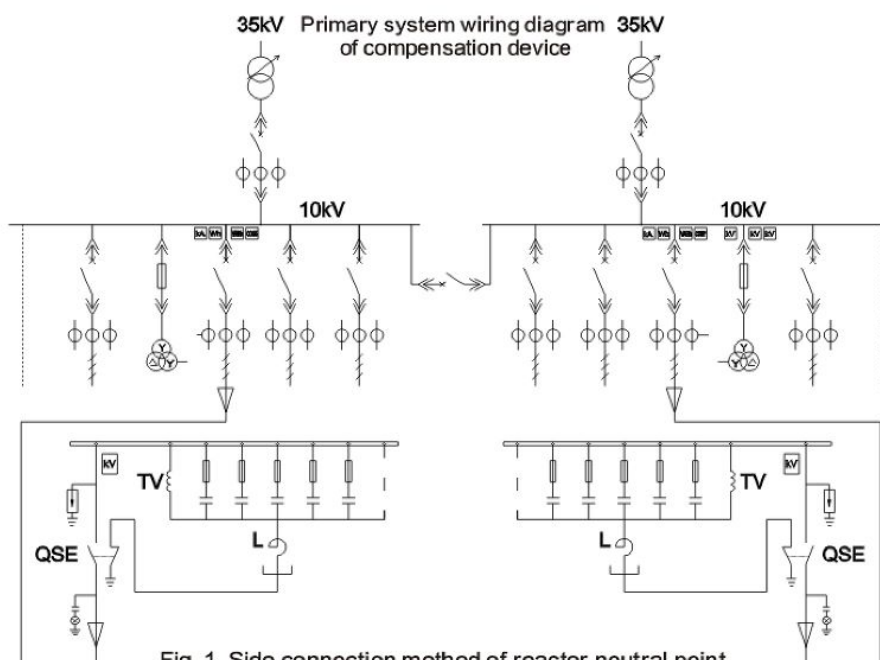
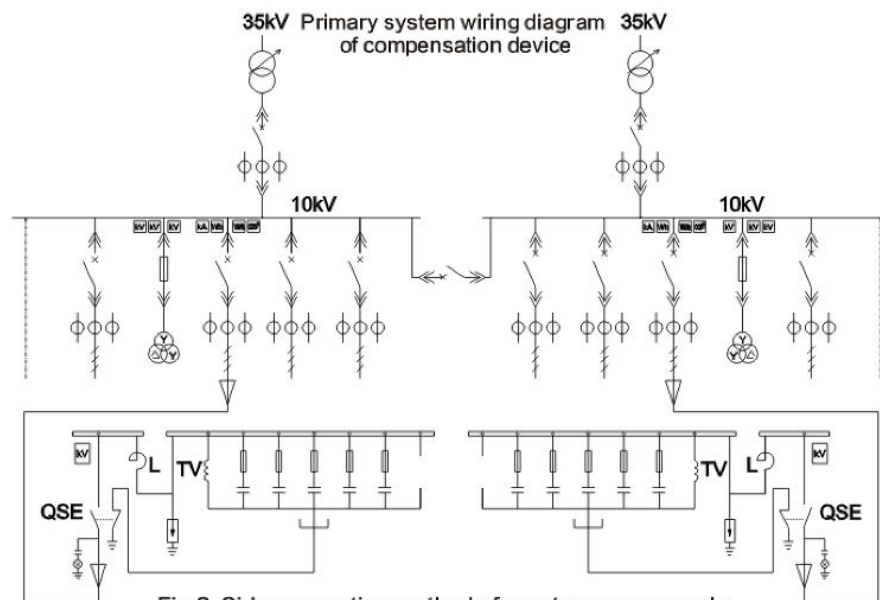

Fig. 1 Side connection method of reactor neutral point
Fig. 2 Side connection method of reactor power supply
7.1 Connection mode of compensation device: there are "Y" and "Y-Y" connection modes as well as neutral non-grounding for the compensation device. The specific connection method is shown in the primary wiring diagram of each product and the primary system wiring schematic diagram of the compensation device (see Fig. 1 and Fig. 2).